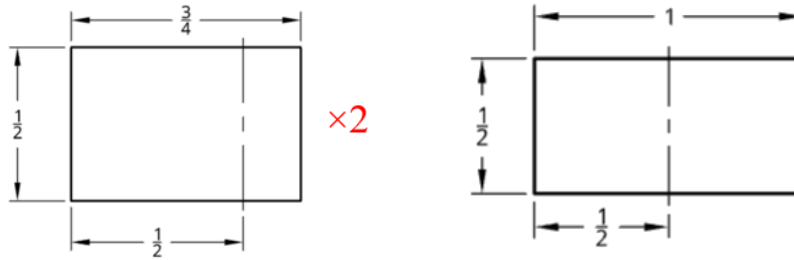

Figure 10. Manufacturing Step 5-6
5. Now using 1/32" sheet metal, make two 1/2" by 3/4" rectangles and from 1/8" sheet metal one 1/2" by 1" rectangle using the shear or the laser cutter (see figure 10). The two 1/2" by 3/4" rectangles will be welded to the baseplate as the pegs for the backset guide and other rectangle will be for the 12"/24" guide.